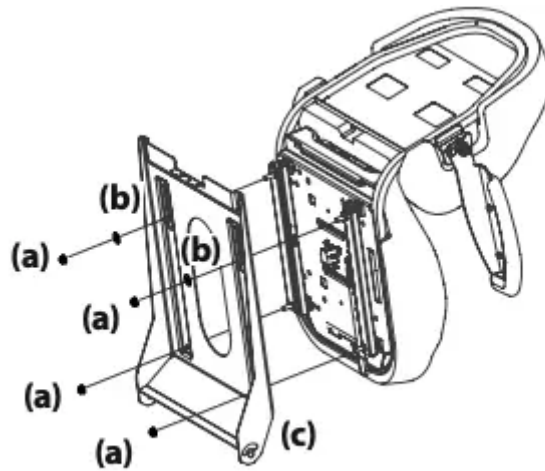

Figure 5
b. For a Lever Adjust seat use flange lock nuts (a) and flat washers (b). See Figure 5.